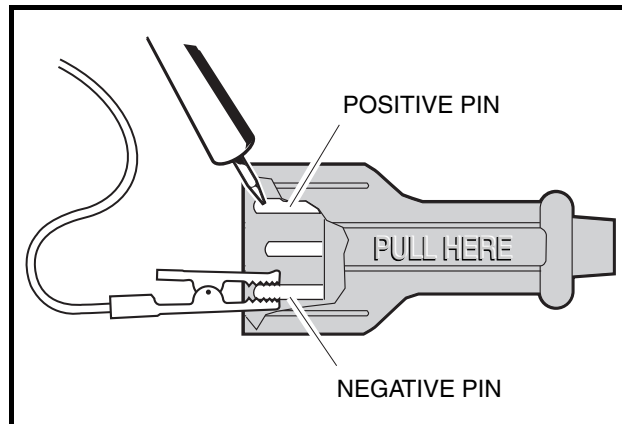

Figure 3-20 DC Plug Test
2. Using a continuity tester (CC P/N 1011273) or multimeter set to 200 ohms, connect the test probes to the pins marked (+) and (–) on the DC plug (**Figure 3-20, Page 3-22**). Note the reading.